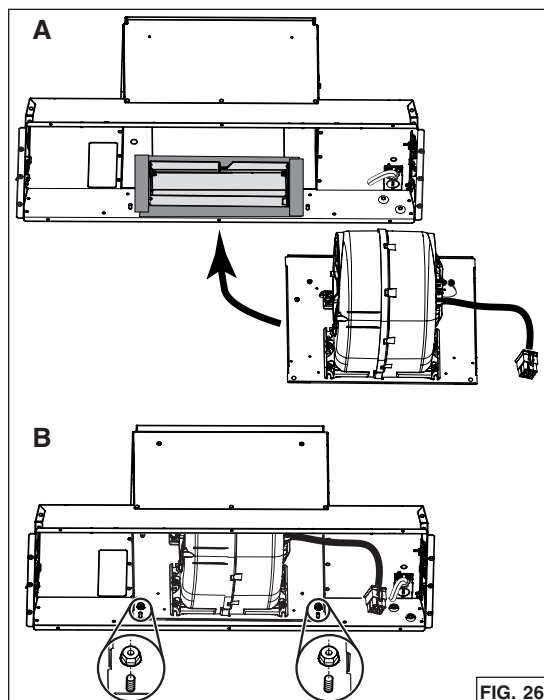

FIG. 26
- Insert the blower with its support plate inside the unit, where the back plate was initially (**A**). Attach to the unit using 2 nuts previously removed in step 7 on page 11 (**B**) (FIG. 26).